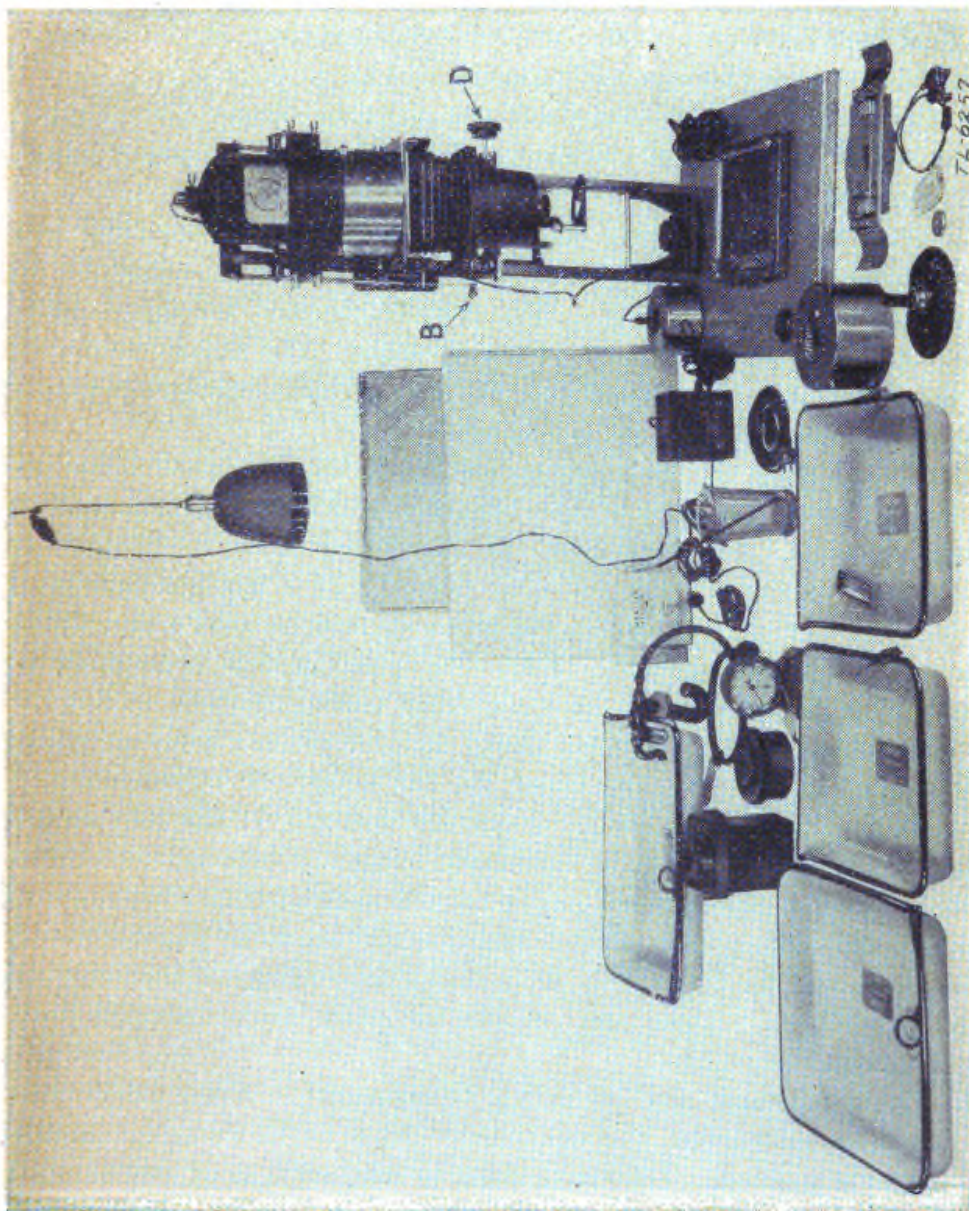

FIGURE 4.—Processing equipment PH-406 ready for use.
forward film gate release lever *B* (fig. 4), located just to the left of the lamp house. If the print is to include the entire area of the negative, the composing of the print is a matter of correct spacing of the image on the paper board. To accomplish this, loosen the bakelite printer head lock screw *C*, located on the side of the printer head
bracket, and slide the entire printer head vertically along the guide bars until the correct image size is obtained. Open the lens wide and focus it by rotating focusing knob *D* (fig. 4), located just to the right of the lens. Frequently it is not necessary to include the entire image of the negative in the print. In such cases it is often possible to improve the composition of the print by local masking of the image.
b. Printer head base.—The printer head base consists of two steel stampings, to which are fastened the bellows, film gate, film gate receiver, lens focusing mechanism, and levers for attaching the lamp house and the condenser assembly. The adjustment knob *D* (fig. 4) moves the lens vertically along the guide bars by means of a friction drive. In this way, the lens is focused. A positive lock set screw for clamping the printer head in any desired position is located on the side of the left frame. The film gates are of pressed steel construction, and are equipped with internal springs that automatically open the gate when the film gate release lever is operated. The operation of this lever relieves the gate of the weight of the lamp house, and makes it easy to insert the negative in the gate. A spring loaded reel mounted on the printer head base, with the end of the tape fastened to the top of the girder, counterbalances the weight of the printer head. This reduces to a minimum the effort required of the operator in moving the printer head for print size selection. A red filter for use with bromide paper is mounted just below the lens on a swivel mount.